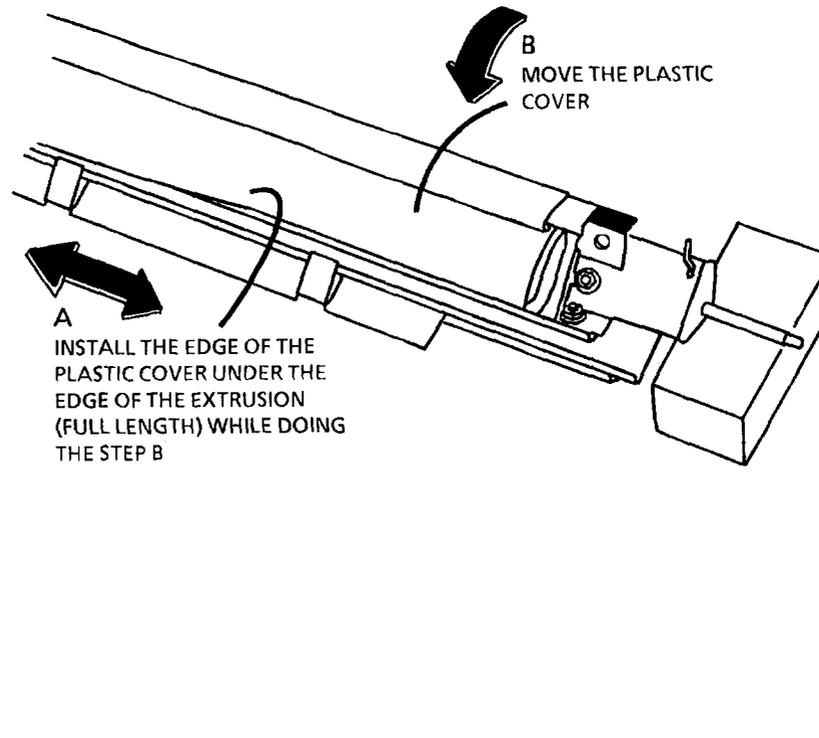

Figure 4. Install the Plastic Cover Over the Oil Pads
3. (FIGURE 4): INSTALL THE PLASTIC COVER OVER THE OIL PADS.